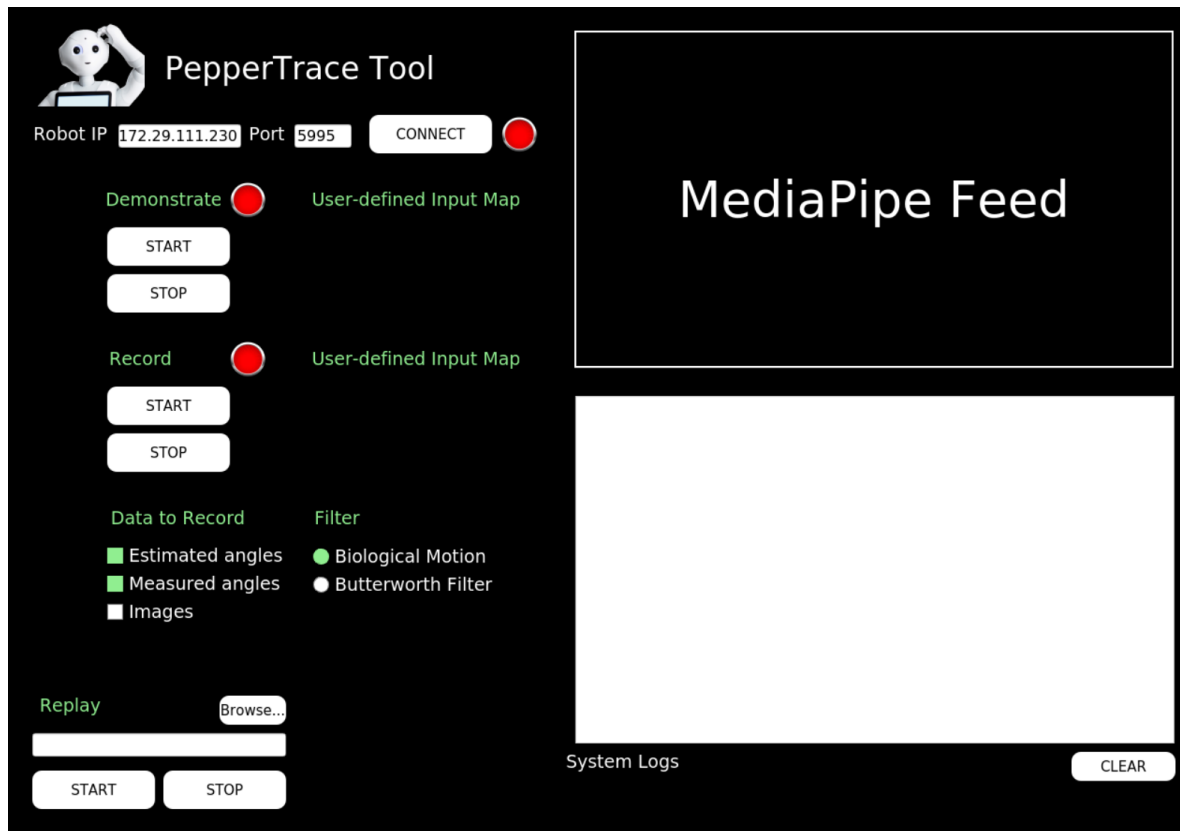

Figure 14: Graphical User Interface for the PepperTrace Programming by Demonstration Tool
Step 6: Start the tool by running the following command. This should launch the GUI depicted in Figure 14.